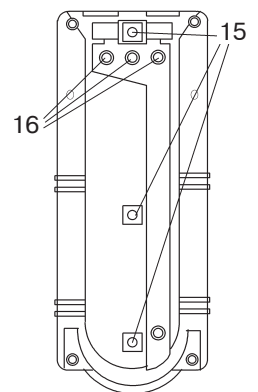

Figure 4 – Reverse side of the Base
8.3 Open necessary number of holes (16) for wiring in the base (Figure 4).